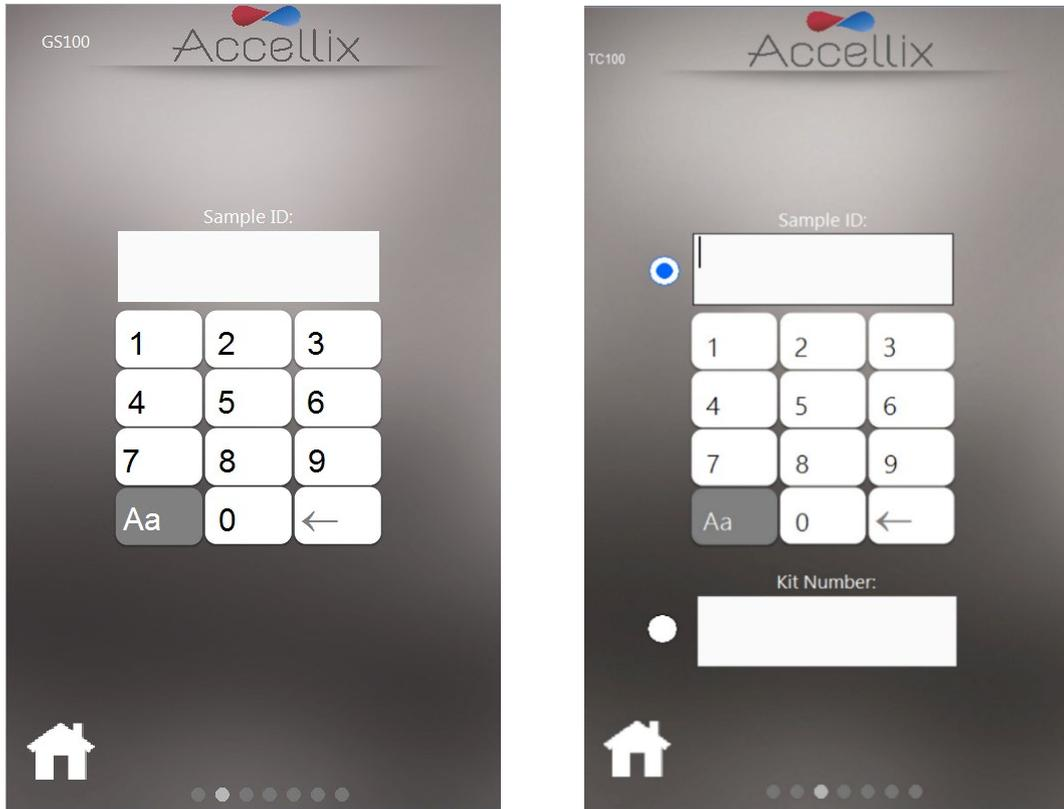

Figure 29: Enter Sample ID screen (with and without Kit Number)
7. **Enter Sample ID screen** (Figure 29) - enter Sample ID using the on-screen keypad, by using an external keyboard or barcode scanner. The Sample ID will then be displayed on all subsequent screens of the test run.